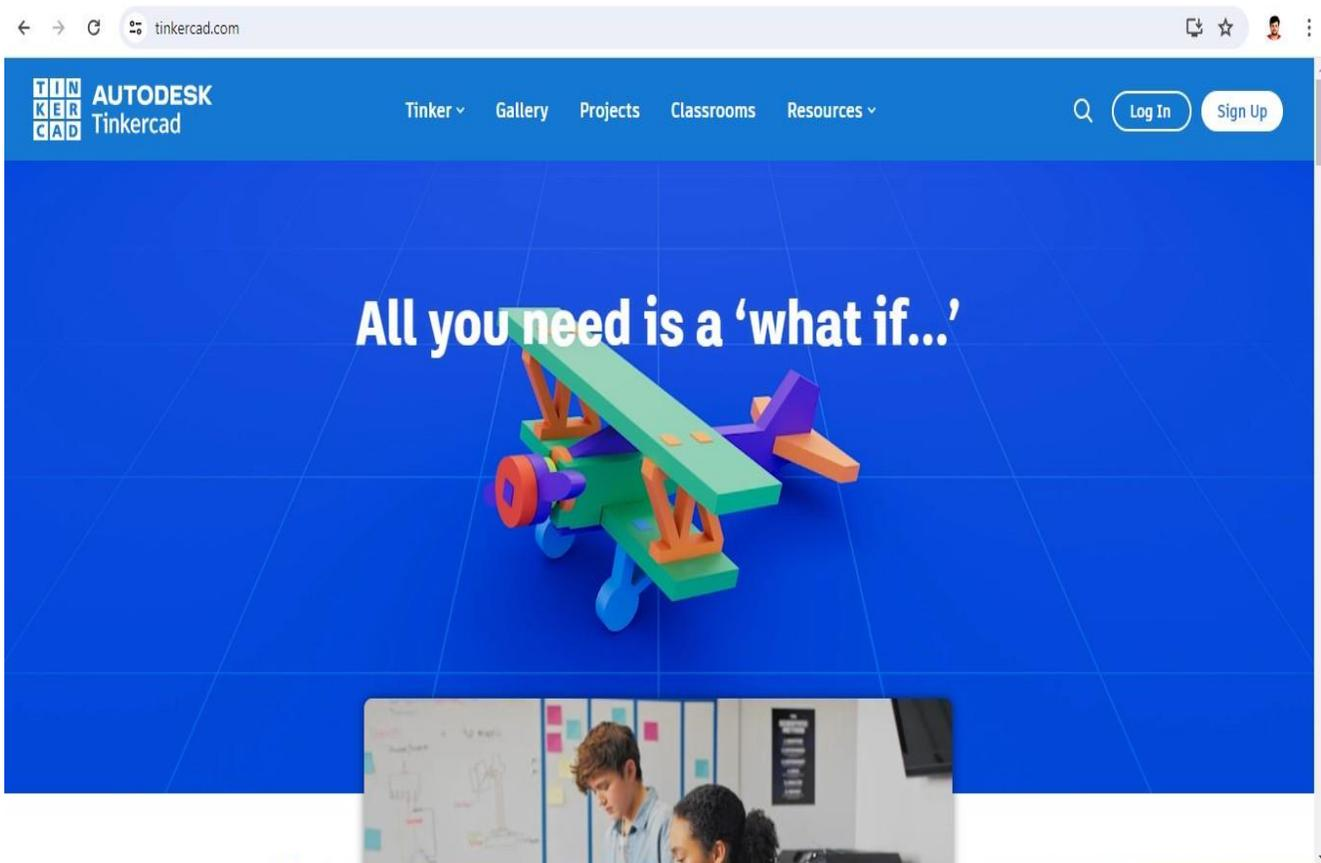

Fig 2.3 Webpage Tinkercad website
1. Go through the website [www.https://www.tinkercad.com/](https://www.tinkercad.com/) (a window will open as shown in Fig. 2.3)